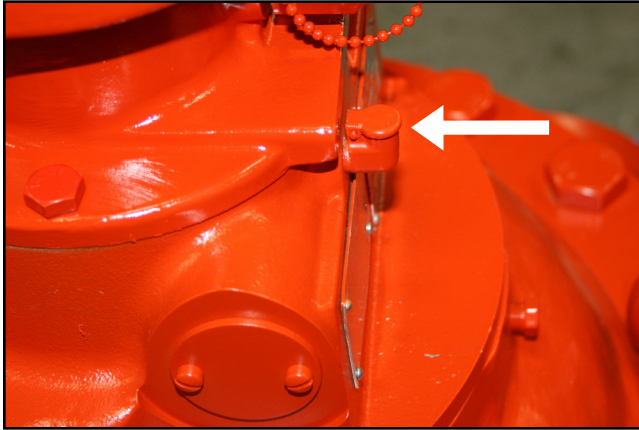

Figure 5 – Oil Cup (E3)
1. If your meter has a calibrator, it requires lubrication with light oil (SAE-10). Initially, apply it after approximately five hours of operation and then about twice yearly. (See oil cup – Figure 5).